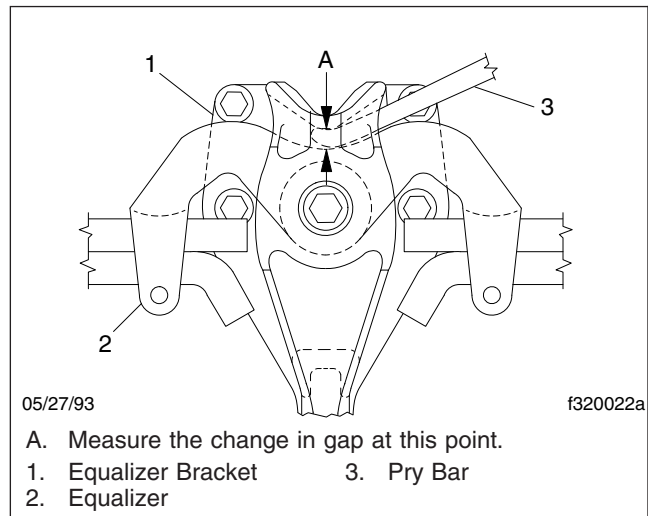

Fig. 2, Side View of the Equalizer
6. Block up the frame enough to take chassis weight off the springs. Attempt to move the equalizer up and down, using a pry bar between the top of the equalizer and top of the equalizer bracket; apply hand pressure only. See **Fig. 2**. If movement at the center of the equalizer exceeds 1/8 inch (3 mm), replace the equalizer bushings. See **Group 32** of the *108SD and 114SD Workshop Manual* for instructions.